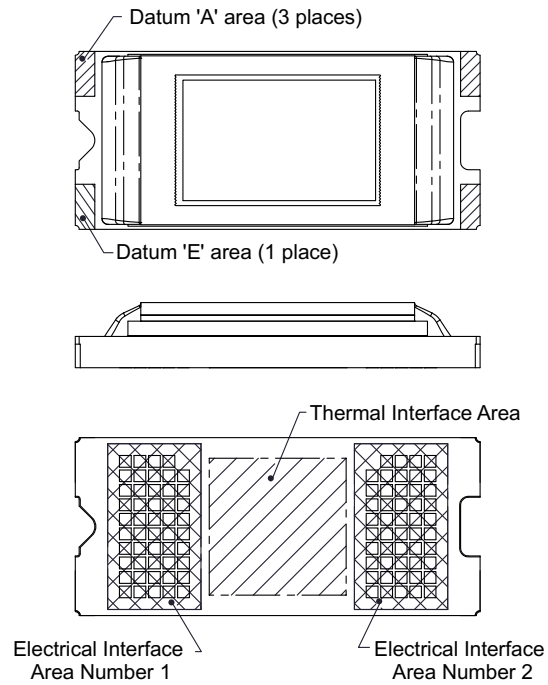

Figure 3. System Interface Loads for FQD
- (1) See Section 2.2.1 and Figure 3 for diagrams.
(2) See Mounting Concepts DLP4500FQD.